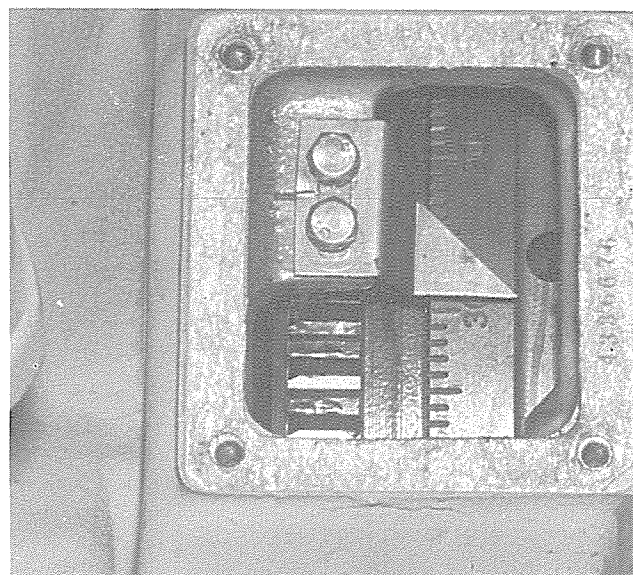

Fig. 25 — Timing Mark on Engine Flywheel Indicating 30° (T-71410)
5. Remove timing hole cover from engine flywheel housing and make certain that timing pointer, Fig. 25, is aligned with the proper degree mark (refer to "TIMING CHART" in following Paragraph). If pointer is not aligned with proper mark, crank engine by hand until it is.
2. Continue rotating the flywheel until the timing pointer, Fig. 25, indicates the specified number of degrees B.T.D.C. on the flywheel (refer to following table).